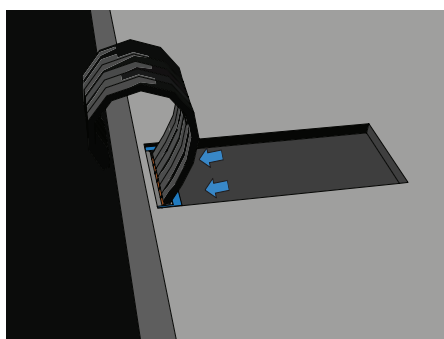

Fig.14
3. Insert the keyboard FPC ribbon cable into the connector socket and slide the two connector tabs inward to secure the cable. (See Fig.14)